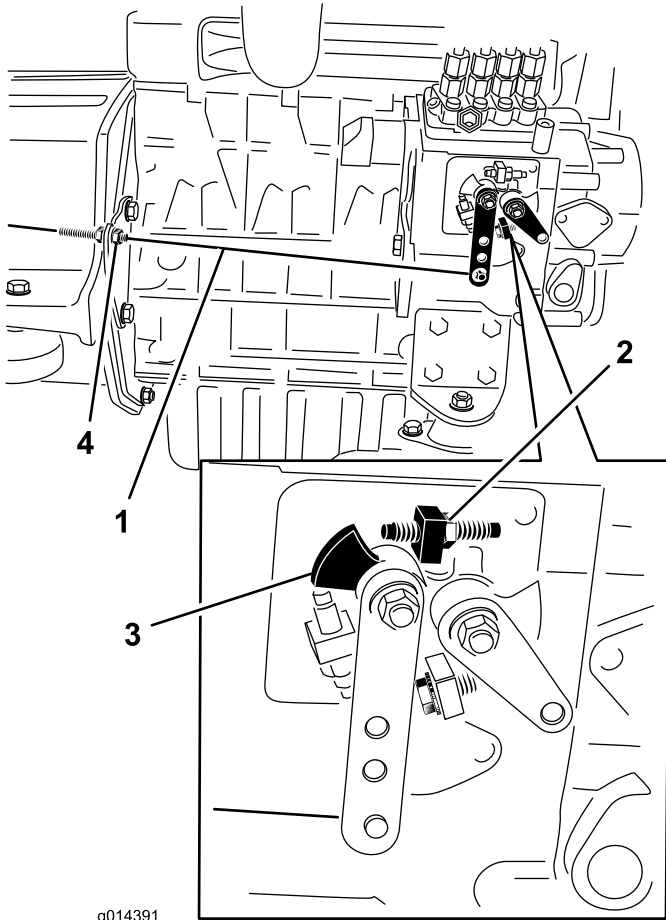

Figure 46
2. Check the position of the speed control lever on the engine fuel injection pump. The speed control lever should be contacting the high speed screw when the throttle control lever is in the FAST (detent) position (Figure 46).
3. If necessary, the position of the throttle control cable jam nuts can be adjusted until speed control lever contacts high speed screw when throttle control lever is at FAST (detent) position (Figure 46).